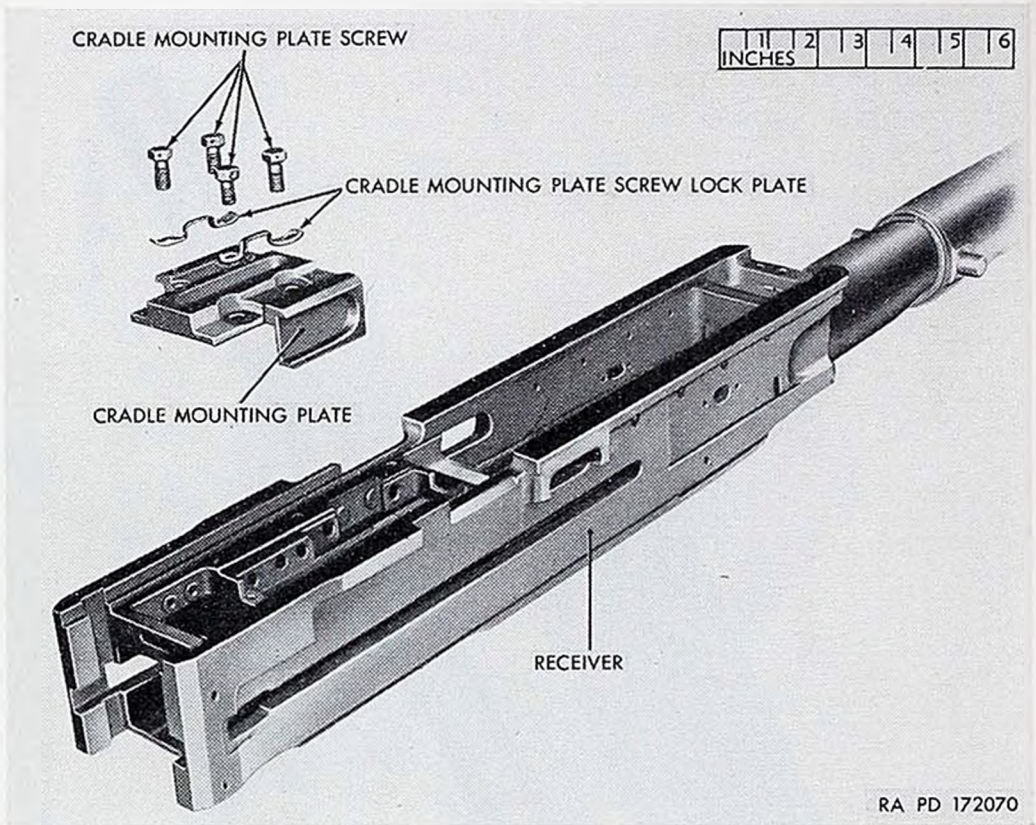
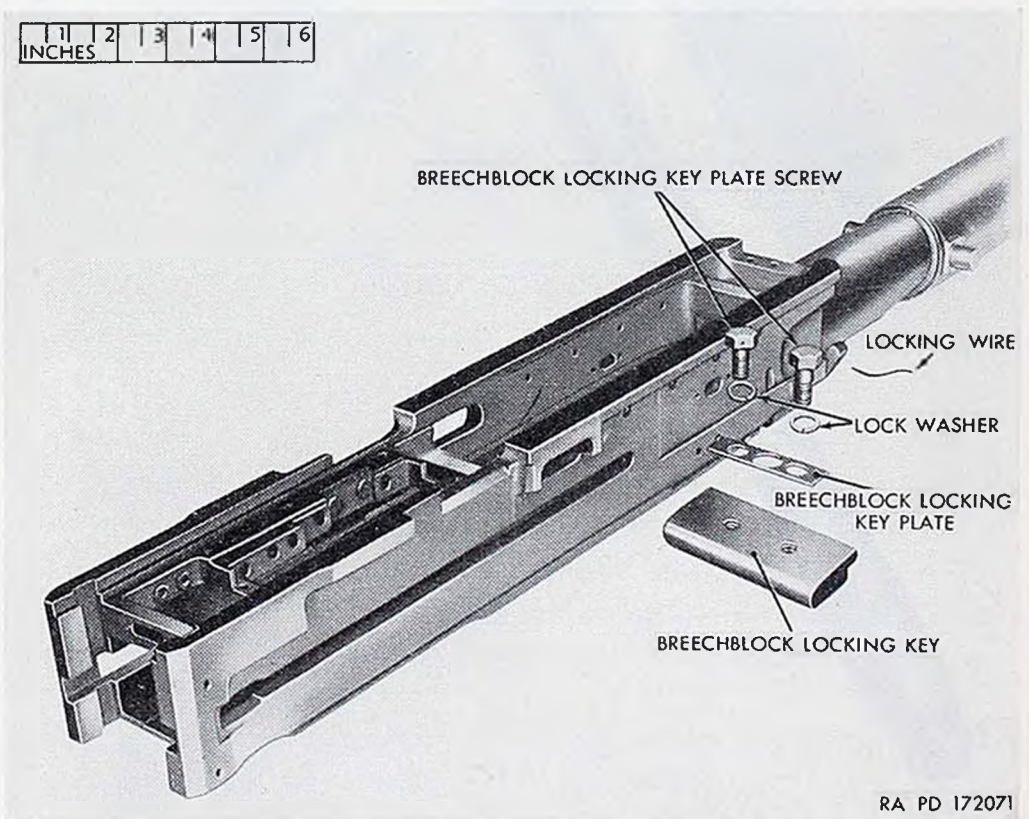
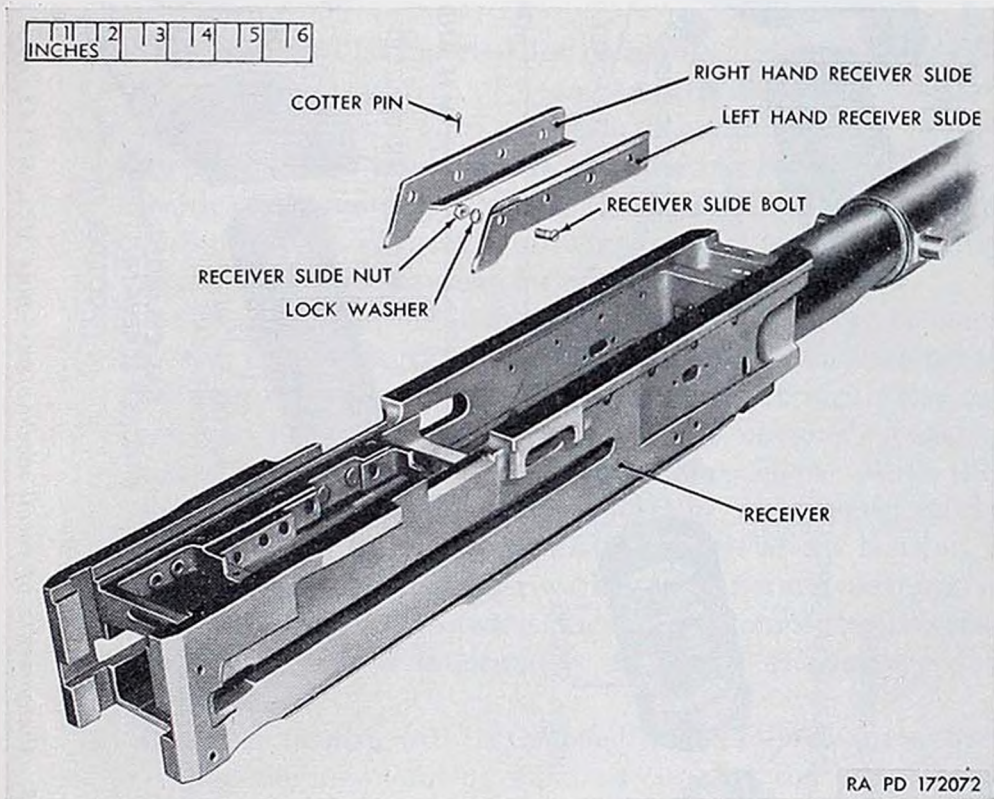
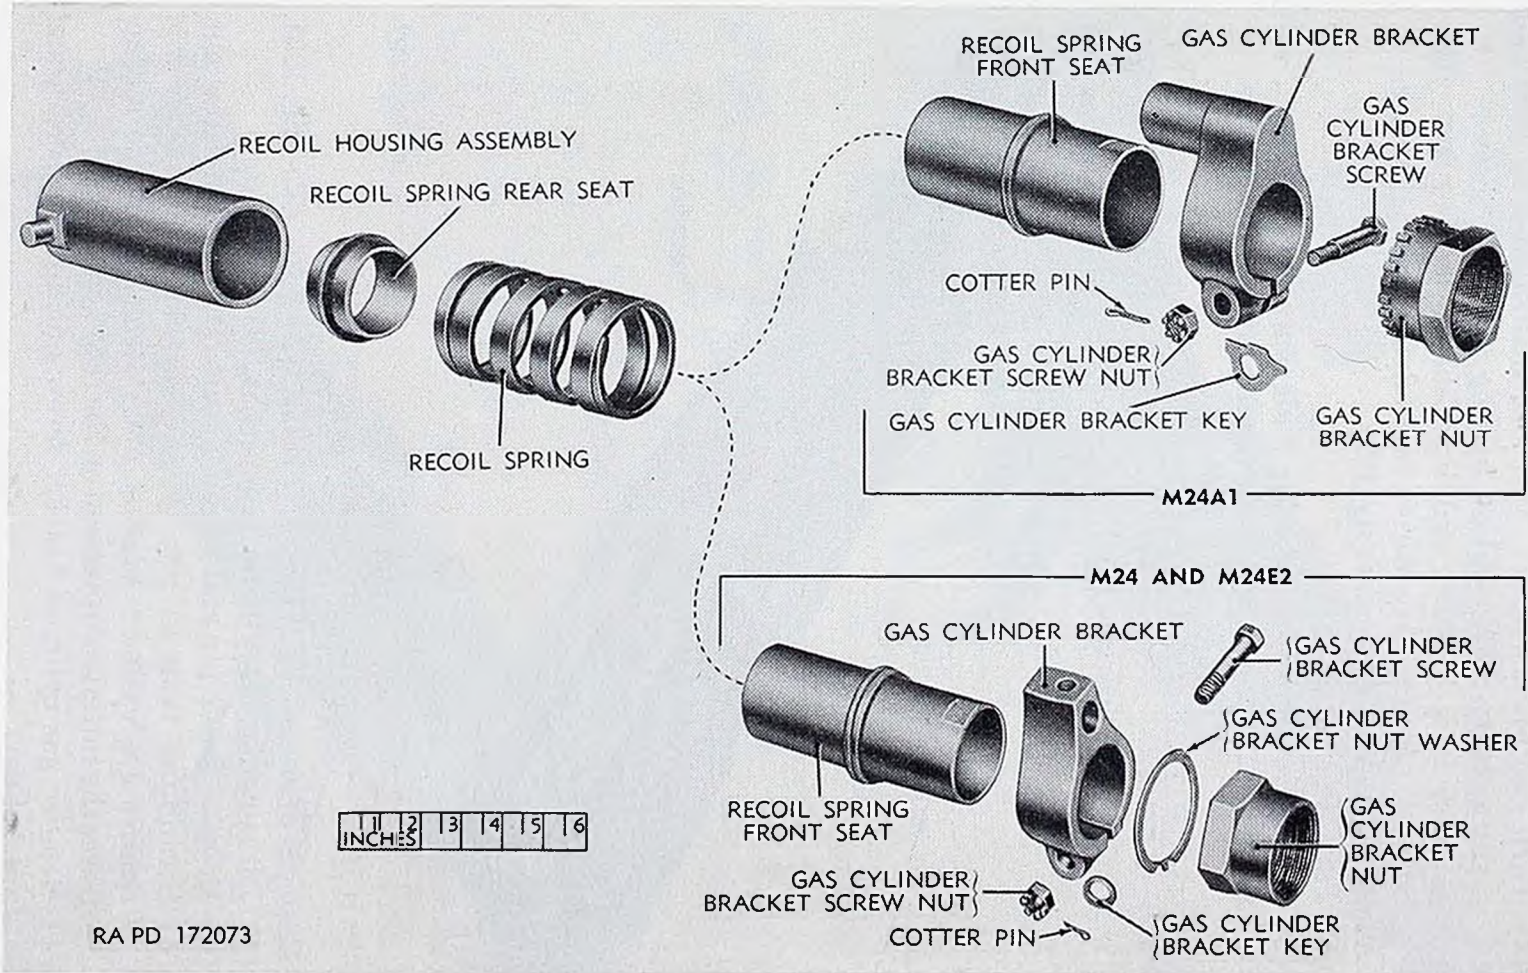

Figure 120. Removal of cradle mounting plate.
Figure 121. Removal of breechblock locking key.
Figure 122. Removal of receiver slides.
Figure 123. Components of recoil mechanism—guns M24, M24A1, and M24E2.
b. Removal of Cradle Mounting Plate (fig. 120).
- (1) Straighten the two cradle mounting plate screw lock plates with a blunt cold chisel and unscrew the four cradle mounting plate screws.
- (2) Remove the two cradle mounting plate screw lock plates and lift cradle mounting plate from receiver.
c. Removal of Breechblock Locking Key (fig. 121).
- (1) Turn gun upside down. Cut and remove locking wire and remove the two breechblock locking key plate screws.
- (2) Remove lock washers and breechblock locking key plate. Drive out locking key with a brass drift or soft hammer.
d. Removal of Receiver Slides (fig. 122).
- (1) Turn gun upside down.
- (2) Remove cotter pins, receiver slide nuts, lock washers, and receiver slide bolts and then remove the receiver slides.
e. Removal of Recoil Mechanism (Guns M24 and M24E2) (fig. 123).
- (1) Disassemble gas cylinder group (par. 76).
- (2) Remove cotter pin and loosen gas cylinder bracket screw nut.
- (3) Straighten tang in gas cylinder bracket nut washer and remove gas cylinder bracket nut. Removal of this nut relieves the initial compression on the recoil spring.
- (4) Remove gas cylinder bracket screw nut, bracket screw, and bracket key.
- (5) Remove gas cylinder bracket, recoil spring front seat, recoil spring, and recoil spring rear seat.
- (6) Slide recoil housing assembly off tube. The recoil housing assembly must not be disassembled by field maintenance.
- f. *Removal of Recoil Mechanism (Gun M24A1) (fig. 123).*
- (1) Disassemble gas cylinder group (par. 110).
- (2) Remove gas cylinder bracket nut, gas cylinder bracket, recoil spring front seat, recoil spring, recoil spring rear seat, and recoil housing assembly. The recoil housing assembly must not be disassembled by field maintenance.
- (1) Examine threads on new tube and coat them with a thin film of graphite grease (soft).
- (2) Install new tube and align hole in receiver with hole for tube locking pin.
- (3) Insure alinement of barrel plunger holes in tube and receiver (gun M24A1).
- (4) Ream a hole in tube to twenty-five sixty-fourths inch, using standard reamer; install tube locking pin and cotter pin.
b. Installation of Cradle Mounting Plate (fig. 120).
- (1) Install cradle mounting plate in recess on bottom of receiver. The opening for the roller guide slots should face the rear of the gun.
- (2) Position the two cradle mounting plate screw lock plates and screw in the four cradle mounting plate screws.
- (3) Bend the ends of the two cradle mounting plate screw lock plates against the heads of the four screws.
c. Installation of Breechblock Locking Key (fig. 121).
- (1) Drive breechblock locking key into its slot in the receiver with a soft hammer or brass drift. The indented side of the key should face the muzzle end of the gun.
- (2) Install the two breechblock locking key plates, lock washers, and screws and secure them with locking wire.